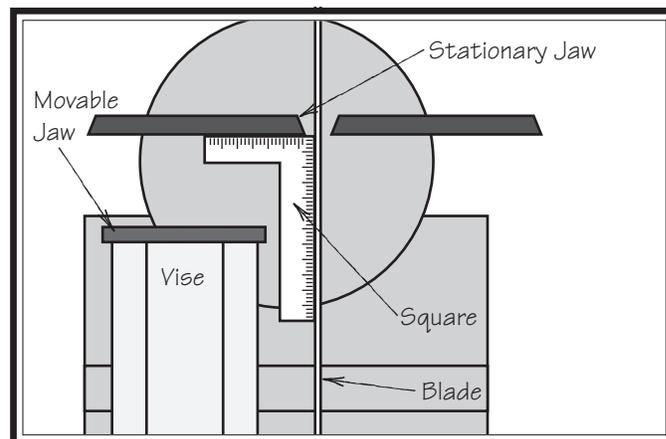

Figure 41. Testing vise/blade squareness.
2. Loosen the button head cap screws shown in **Figure 41**.
3. Lower the headstock, then place a square flat on the table and against both the stationary jaw and the blade, as shown in **Figure 41**.